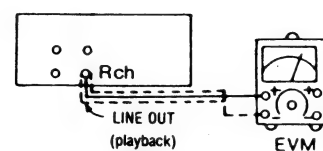

Fig. 5
1. Playback the azimuth adjustment portion (8kHz, -20dB) of the test tape (QZZCFM). Vary the azimuth adjusting screw until the output of the R-CH are maximized. (See Fig. 5)